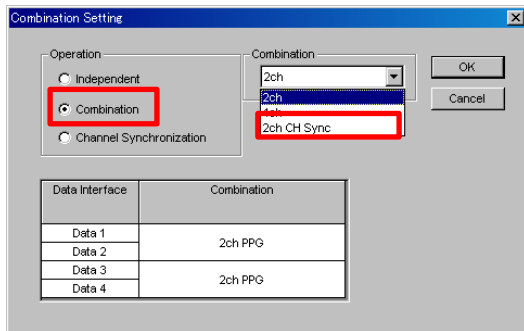

Fig.4 Combination setting
- 1) Combination setting is used to match the signal generation timing between the multi-channel PPGs. Depending on the customer usage conditions, one of the following three MU183021A 32 Gbit/s 4ch PPG signal generations modes (Independent, Combination, CH Synchronization) is selected (Fig.4)